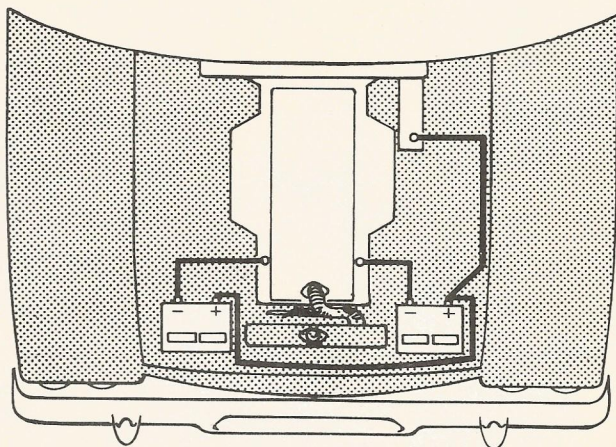

Fig. 3
1. If your vehicle has two batteries arranged as shown in Figure 3, and both batteries are in good condition, you can charge both at the same time. These batteries are electrically connected in parallel which means the combination produces 12 volts, but has twice the available current of a single battery. The effect is the same as a single very large 12 volt battery.